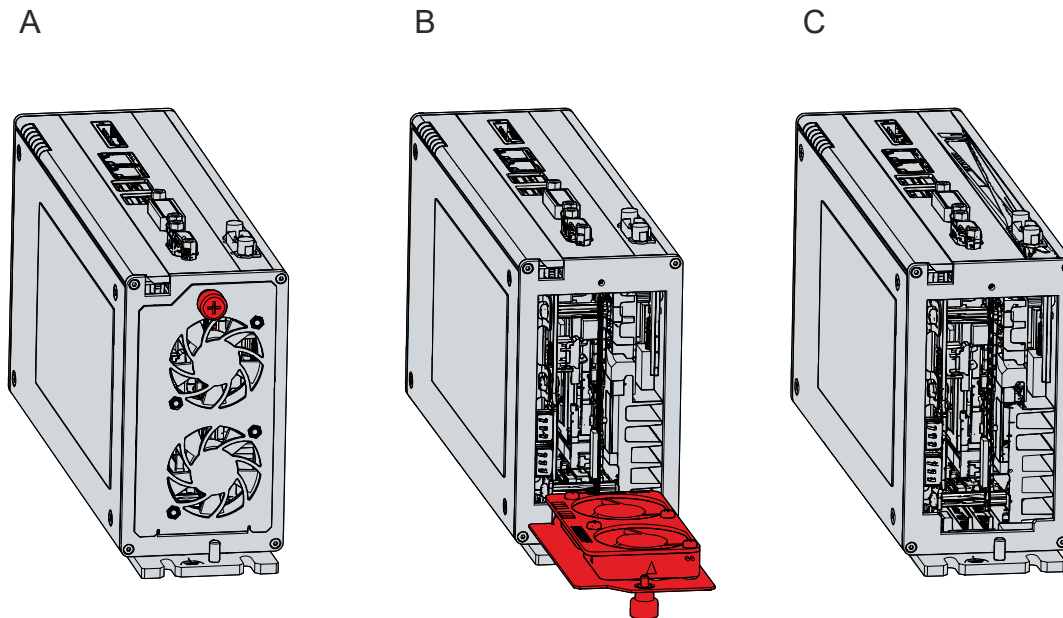

Fig. 27: C6920_Fan cartridge replacement
1. Remove the SSD from the PC by pulling forcefully on the protruding Beckhoff sticker (see fig. 27).
To change the fan cartridge, follow the steps below, which are shown in fig. 27: